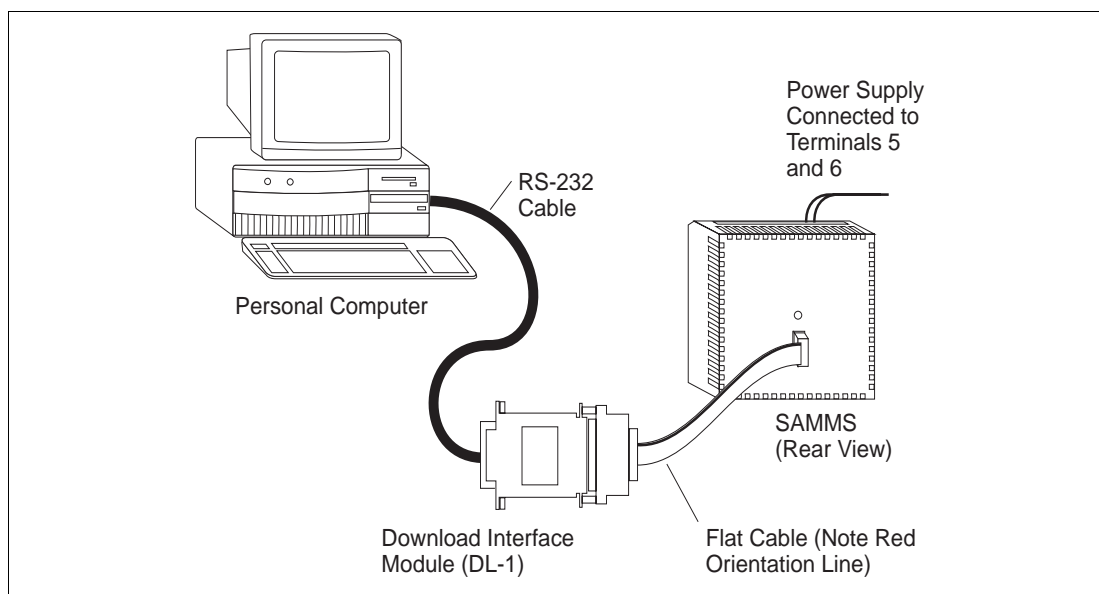

Figure 4.8 Downloading to a SAMMS Device
2. Connect the ribbon cable attached to the download module to the rear communications port of the SAMMS device; and use the RS-232 cable supplied with the download module to connect the module to the serial port of the PC. Refer to **Figure 4.8**.